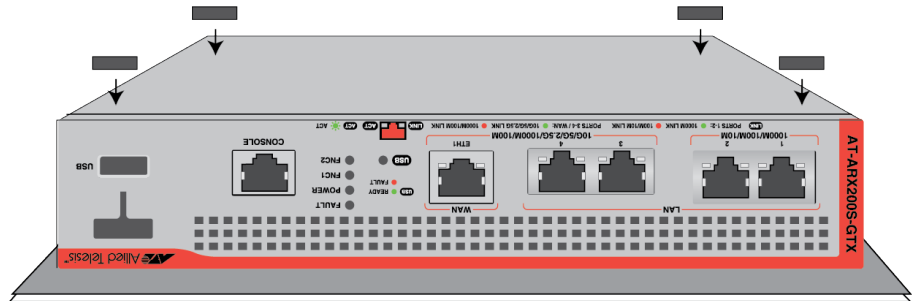

Figure 20. Attaching the Bumper Feet
5. Attach the four bumper feet to the bottom corners of the device. Refer to Figure 20.